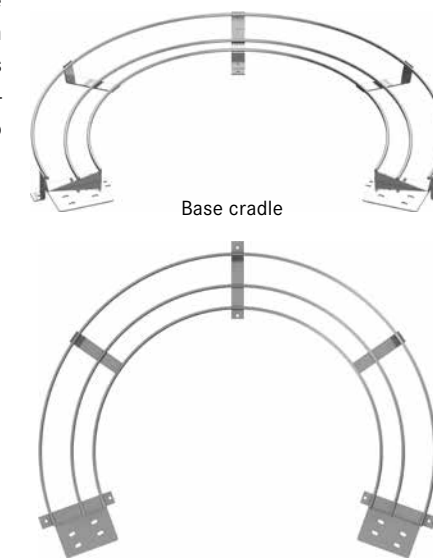

Fig. 2
- Base cradle (Fig. 2), that functions as a channel guide in linear movement and guides the lower part of the cable chain.